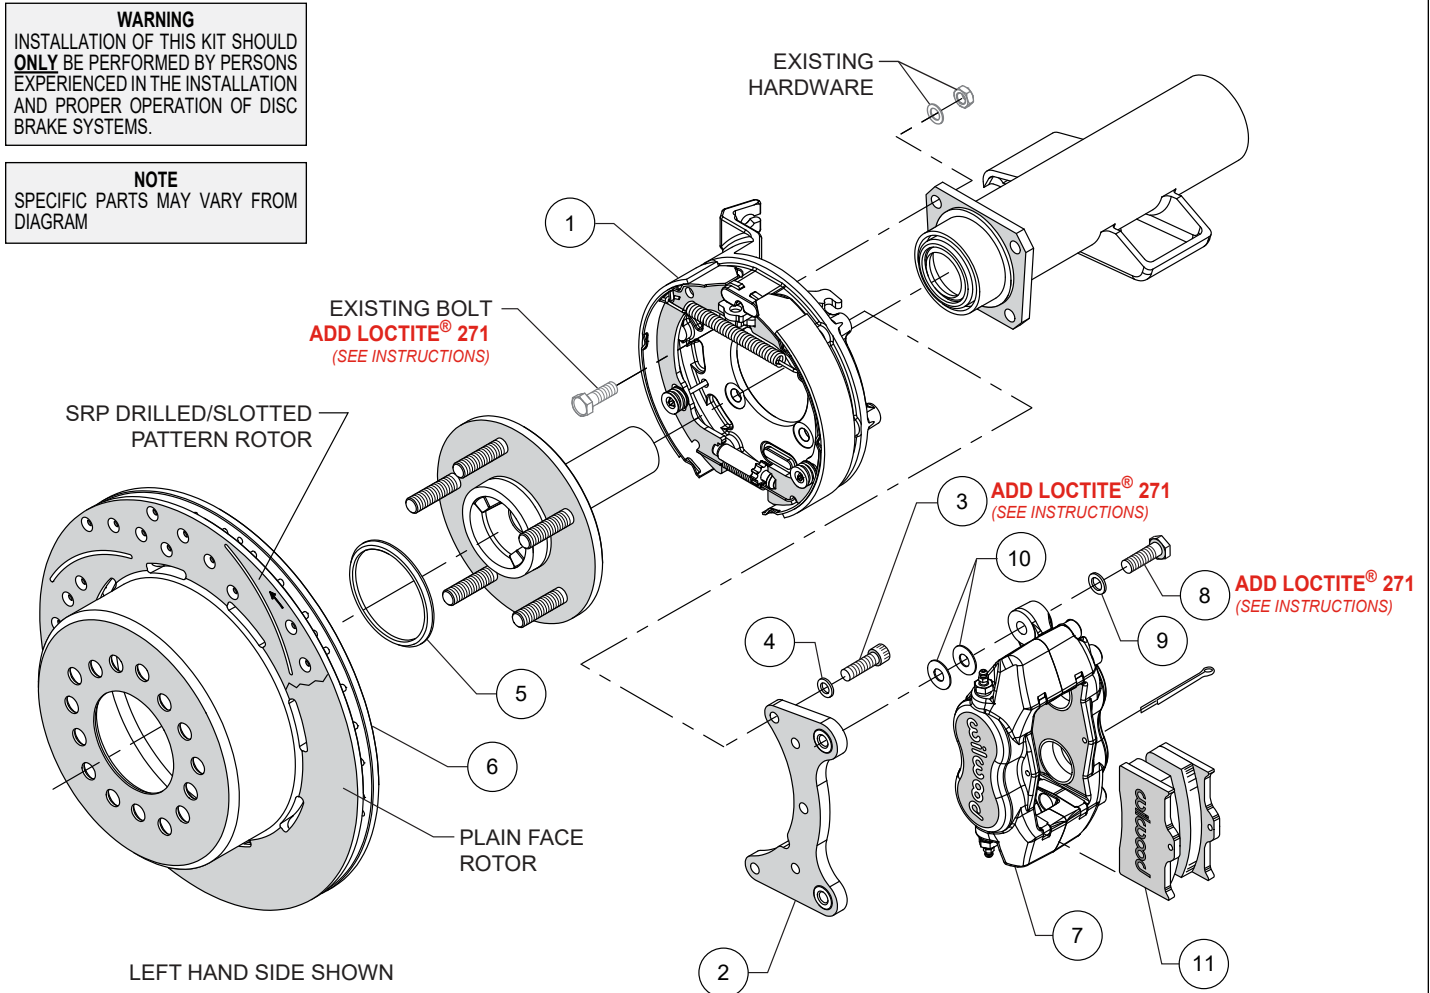
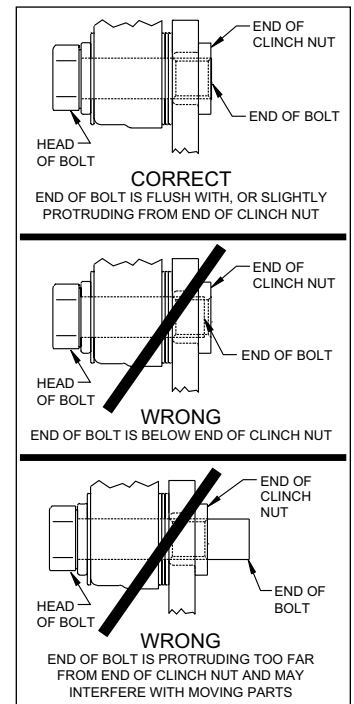

Figure 1. Typical Installation Configuration
Figure 4. Clinch Nut Engagement Diagram
**NOTE:** Numbers in parenthesis refer to the parts list and Figure 1 on the preceding pages.
**CAUTION:** All mounting bolts must fully engage clinch nuts. Be sure to check that all bolts are either flush or protruding through flanged side of clinch nut after shimming, Figure 4.
• Orient the parking brake assembly (1), as shown in Figure 1, and mount to the axle housing flange using the Original Equipment Manufacturer (OEM) bolts and nuts, Figure 1 and Photo 1. Ensure that the parking brake assembly backing plate fits flush against the axle housing flange. Apply red *Loctite*® 271 to the OEM bolt threads and torque to OEM specifications.
• Install the caliper mounting bracket (2) to the parking brake assembly (1) using bolts (3) and washers (4) as shown in Figure 1 and Photo 2. Apply red *Loctite*® 271 to the bolt threads and torque to 25 ft-lbs.
• Slide the rotor registration adapter (5) onto the axle register on the axle flange with the smaller O.D. facing toward the rotor/hat (6), Photo 3.
•Align the correct hole pattern in the rotor/hat with the stud pattern on the axle flange and slide into place, Figure 1. **NOTE:** The rotor/hat must fit flush against the axle flange or excessive rotor run out may result. Install three lug nuts (finger tight) to keep the rotor/hat assembly in place while continuing with the installation.
•**NOTE:** Please reference the caution statement at the beginning of the assembly instructions. Mount the caliper (7) onto the caliper mounting bracket (2) using bolts (8) and washers (9), as shown in Figure 1. Initially place two .035" thick shims (10) on each bolt between the caliper and the bracket, Photo 4. Temporarily tighten the mounting bolts and view the rotor (6) through the top opening of the caliper. The rotor should be centered in the caliper, Photo 5. If not, adjust by adding or subtracting shims (10) between the bracket and the caliper. Always use the same amount of shims on each of the two mounting bolts. **NOTE:** The end of each bolt must be flush with or slightly protruding from the head of the clinch nut, as shown in Figure 4. If necessary place spare shims between washer (9) and caliper mounting ear to achieve the proper clinch nut engagement. Once the caliper alignment and clinch nut engagement are correct, remove the bolts (8) one at a time, apply red *Loctite*® 271 to bolt threads, and torque to 40 ft-lb.
•Install the disc brake pads (11) into the caliper, with the friction material facing the rotor (6), and secure in place using the cotter pin, Photo 6.
•**NOTE:** Clevis and cable kits which attach to the parking brake assembly are not included in the Wilwood parking brake kit. Wilwood offers a generic style parking brake cable kit, P/N 330-9371 for this application which can be ordered separately from your local Wilwood dealer or by calling Wilwood customer service at (805) 388-1188.
•Before final installation of the wheel, install three lug nuts, remove the rubber grommet in the parking brake assembly (1) and adjust the parking brake shoes outward (using a drum shoe adjustment tool available at your local auto parts store) while spinning the rotor/hat until a slight drag is felt against the hat/drum. Replace the rubber grommet when finished.